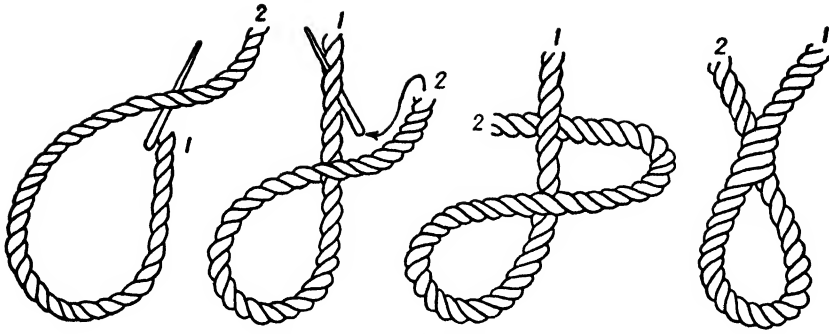

Fig. 8-35. The loop splice.
1. Raise two strands of part 2, and pass part 1 through (see Fig. 8-35).